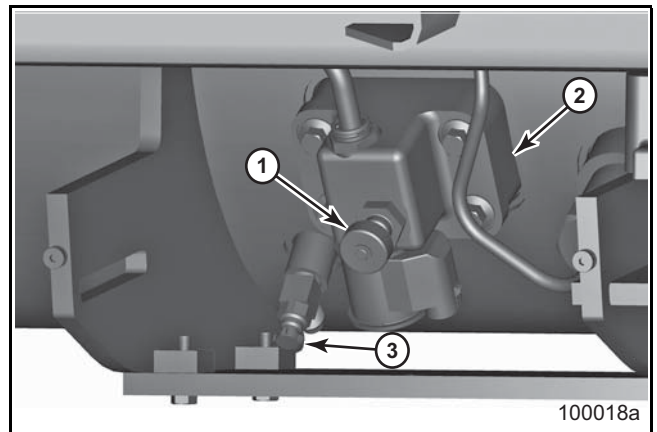

Figure 25 — Manual Shutoff Valve (Typical)
1. Close the manual shutoff valve on the tank supply valve. Refer to *Figure 25 — Manual Shutoff Valve (Typical)*.